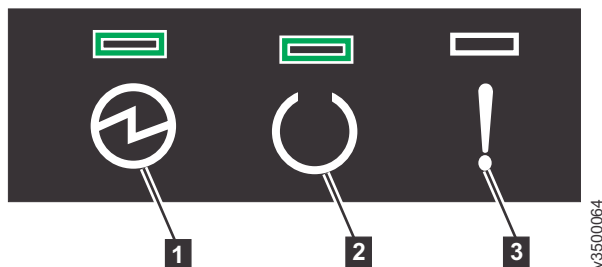

Figure 36. Expansion canister LEDs
2. Check the LEDs on each expansion canister (see Figure 36).